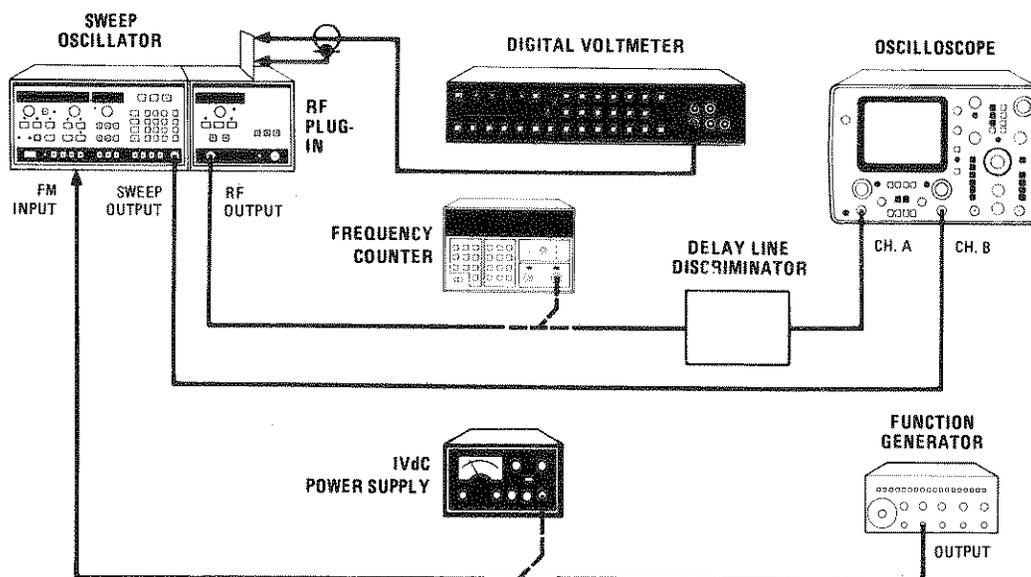

Figure 5-30. Test Setup for FM Driver Adjustments
1. Connect equipment as shown in Figure 5-30 except disconnect function generator from rear panel FM INPUT connector.